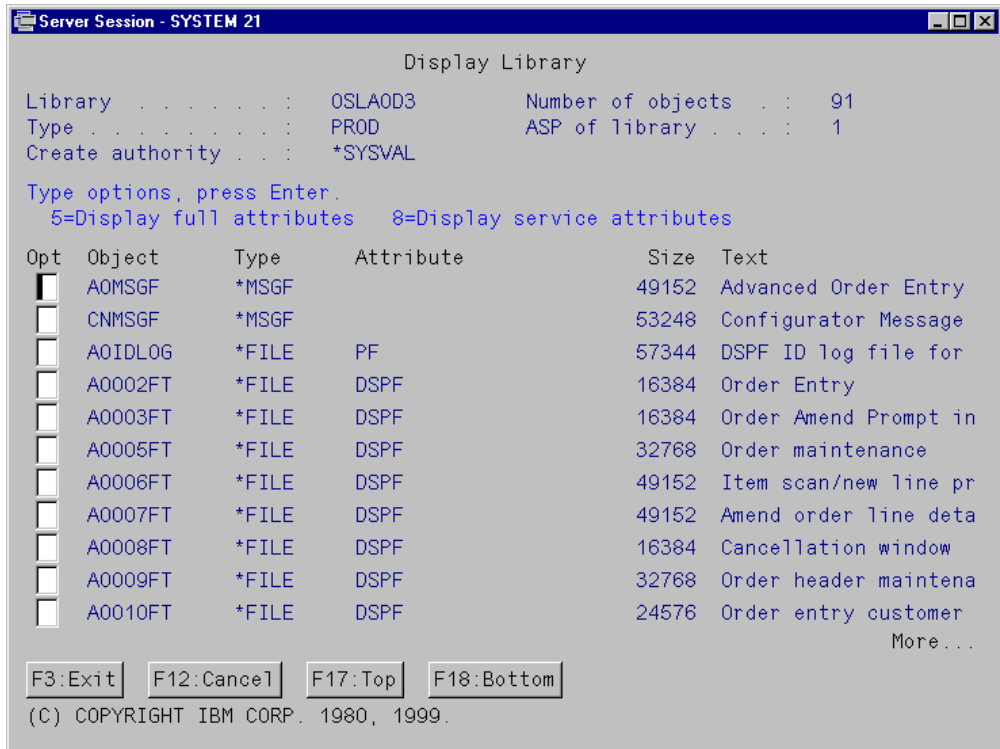

Figure 162. Display Library panel
- **Display library contents:** Displays a list of the objects in the library and allows you to display various details on each object (shown in Figure 162 on page 274).
You may also use option 5 (Display Library) to examine the information about the libraries in greater detail as shown in Figure 162 on page 274.